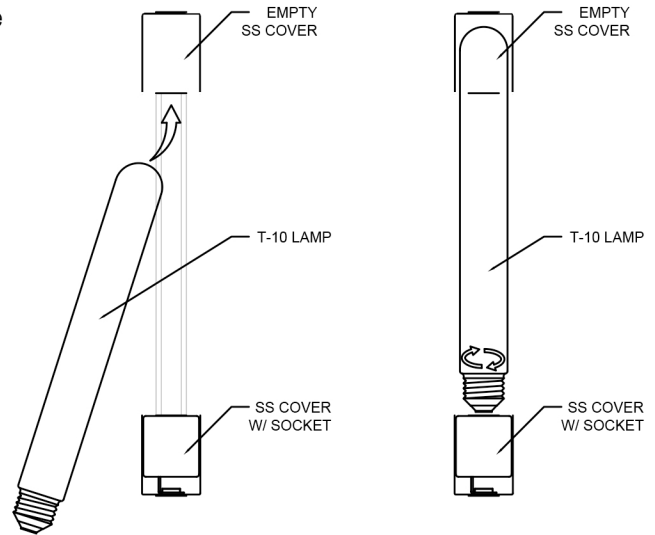

FIGURE-04
7. Pull up & attach the canopy to the mounting strap and secure it with barrel nuts. (See Figure-04)
8. Install the lamps. (Type T-10 lamp) Incline the lamp and slide the tip to the empty ss cover until the position gets vertical then fasten it to the socket on the other ss cover. (See Figure-04)